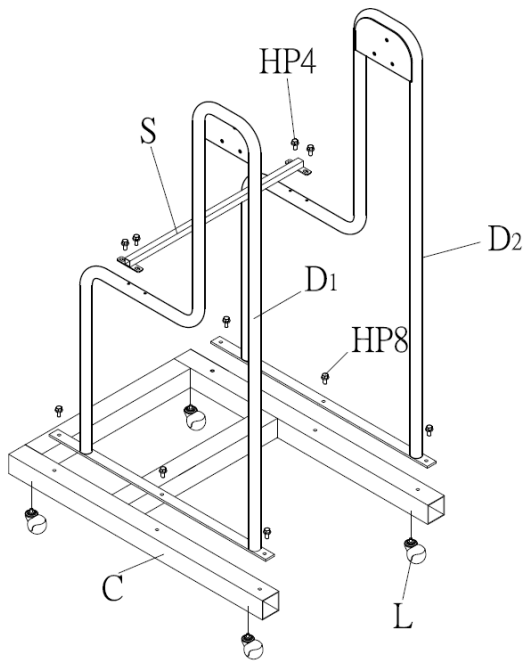

Figure 3
1. Install four casters (L) to base (C). See Figure 3.
2. Install left and right stands (D₁, D₂) to base (C) with flange head screws (HP8).
3. Install stand support (S) to base (C) with flange head screws (HP4).